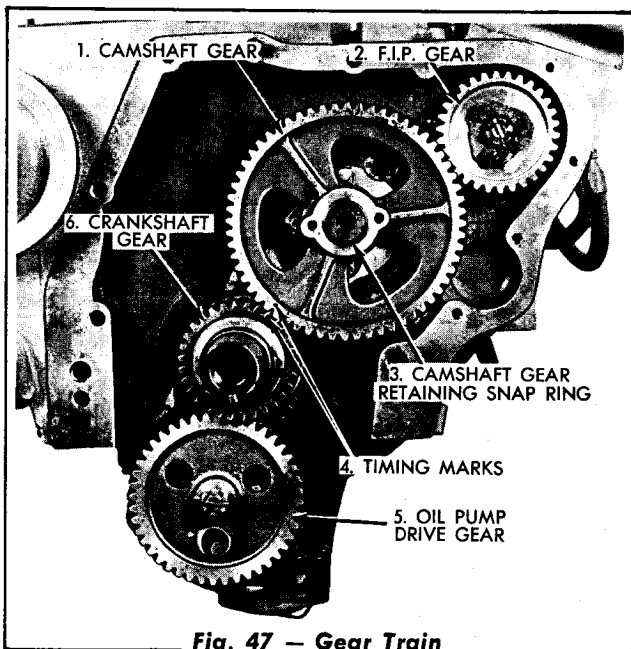
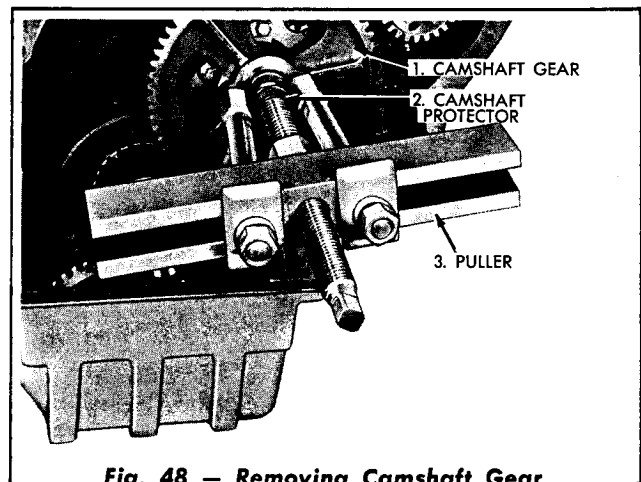

Fig. 47 - Gear Train
Fig. 48 - Removing Camshaft Gear
The camshaft may be installed by a direct reversal of the removal procedure. When installing, be certain that the oil grooved side of the thrust collar is toward the camshaft gear. **NOTE:** Be certain that the timing marks (Fig. 47) on the camshaft gear and the crankshaft gear are aligned when installing the camshaft.
Located in the timing gear housing at the rear end of the engine is a completely enclosed train of four helical gears as shown in Fig. 47. A crankshaft gear, pressed and keyed onto the crankshaft, drives the oil pump and the camshaft gears. The camshaft gear in turn drives the fuel injection pump gear. The gear train is splash lubricated by oil thrown by the gears and by oil being returned to the crankcase.
Remove the gear retaining snap ring from the camshaft. With a puller similar to the one shown in Fig. 48, remove the camshaft gear. **NOTE:** Before removing the camshaft gear, rotate the crankshaft until the timing marks on the crankshaft gear and the camshaft gear are aligned as shown in Fig. 47.
- c. Install the gear retaining snap ring (Fig. 47) on the camshaft.
NOTE: Be certain that the timing marks on the crankshaft gear and the camshaft gear are aligned as shown in Fig. 47 when the crankshaft gear is installed.